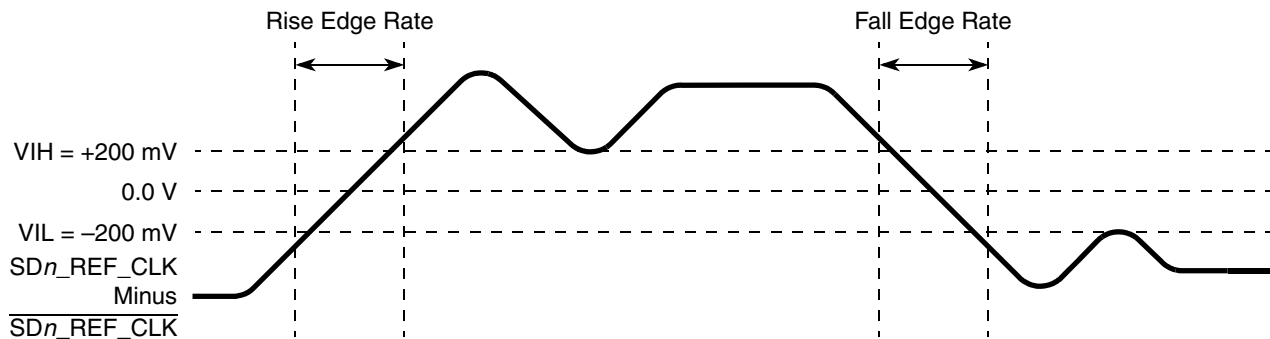

Figure 63. Differential Measurement Points for Rise and Fall Time
The differential waveform is constructed by subtracting the inverting signal ($\overline{SDn_TX}$, for example) from the non-inverting signal (SDn_TX , for example) within a differential pair. There is only one signal trace curve in a differential waveform. The voltage represented in the differential waveform is not referenced to ground. Refer to Figure 63 as an example for differential waveform.
3. Measured from -200 mV to $+200\text{ mV}$ on the differential waveform (derived from SDn_REF_CLK minus $\overline{SDn_REF_CLK}$). The signal must be monotonic through the measurement region for rise and fall time. The 400 mV measurement window is centered on the differential zero crossing. See Figure 63.